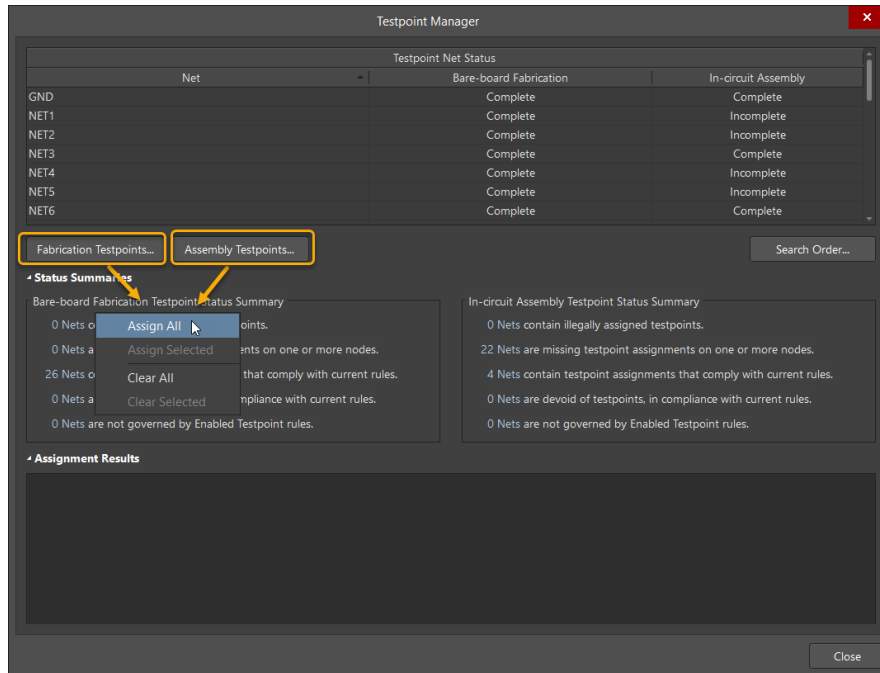

Figure 2. Generating Fabrication and Assembly Testpoints
15. Create the fabrication and assembly testpoints by clicking the buttons shown in Figure 2 and selecting **Assign All**.